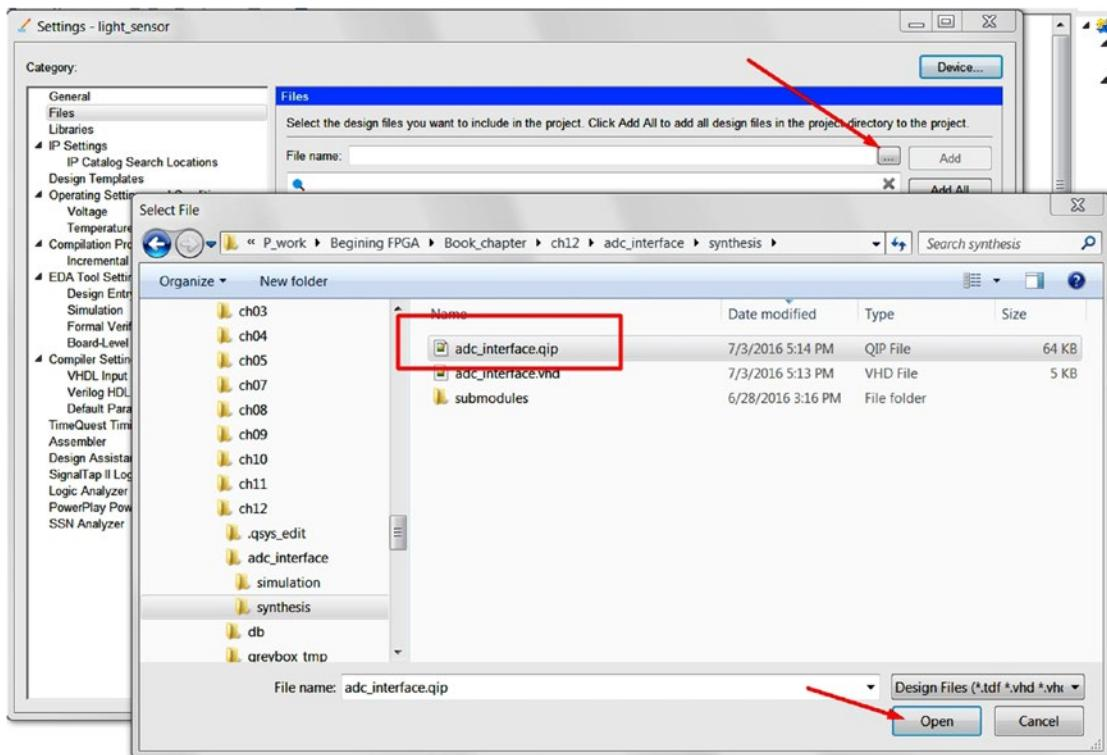

Figure 12-36. Add adc_interface.qip file to the project
Step 2: Browse **>project_directory>\adc_interface\synthesis** and select **adc_interface.qip**. Click **Open** and then **Add** (Figure 12-36).